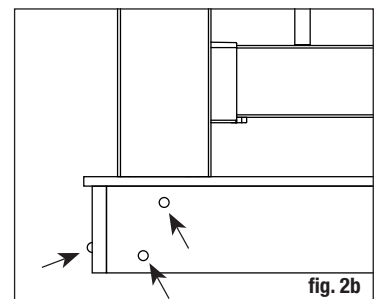

fig. 2b
**Step 3** Position, plumb with a level, and clamp the rail post on the interior face of the joist. Plumb again. The 4x4 railing post should be bolted to the inside of the joists using two 1/2"x6" galvanized carriage bolts. Corner posts use a third carriage bolt inserted through the adjacent joist (fig. 2b).
**Step 2** Position, plumb with a level, and clamp the rail post on the interior face of the stair stringer. Plumb again. The 4x4 railing post should be bolted to the inside of the stair stringer using two 1/2" x 6" galvanized carriage bolts. Corner posts use a third carriage bolt inserted through the adjacent joist (refer to figure 2b). Ground-level posts should be set in concrete.